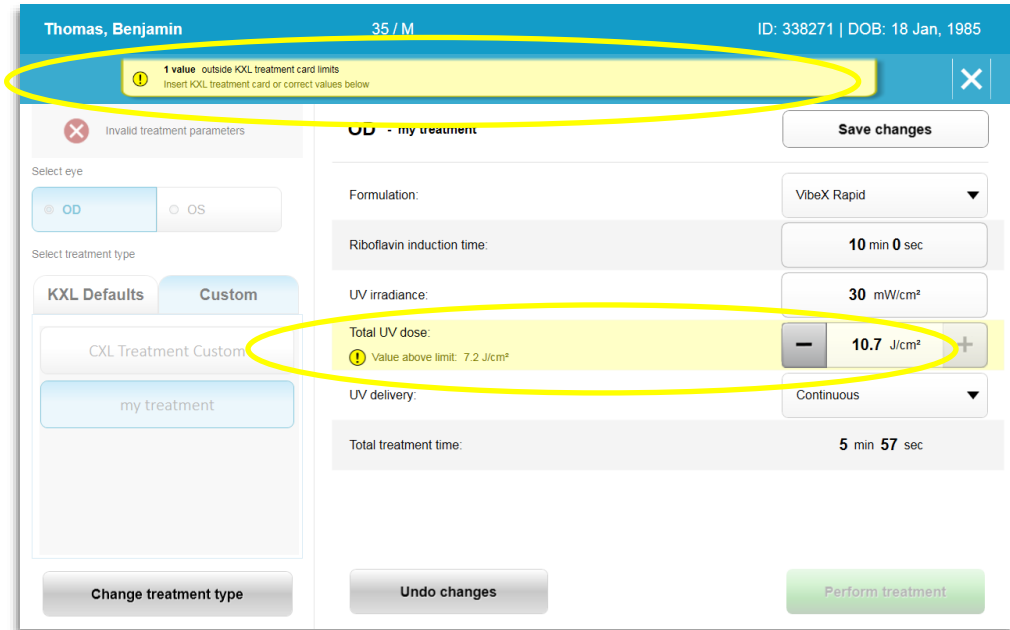

Figure 3-15. Invalid Treatment Parameters
- o If no treatments remain on the card, the system alerts the user to insert a different card as shown in Figure 3-15.